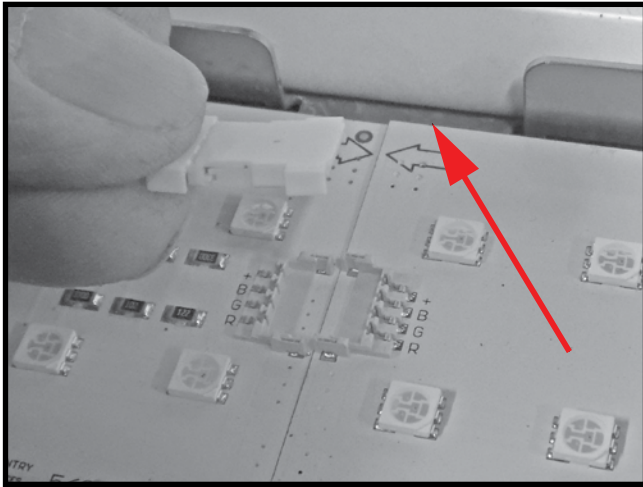

Figure 58: LED strip bridge connector.
5. Remove the bridge connector of the LED section(s) to be replaced (Figure 58). These connector tabs lift up much like the main electrical connector. In this way, individual LED sections can be replaced without removing the entire row of LED sections from the fire feature.
8. Reconnect the individual LED sections using a bridge connector as shown in (Figure 58).